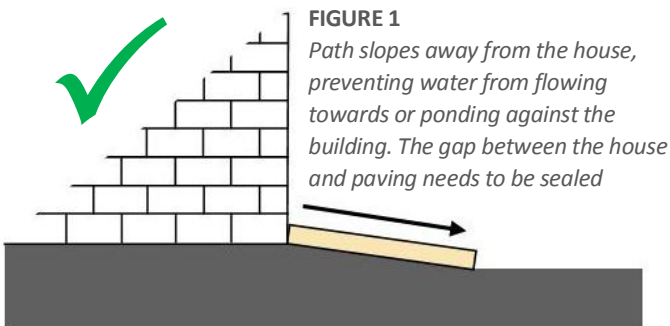

FIGURE 1
- Prevent water flowing towards your home's foundations by sloping the soil, paths and garden beds away from the building (Figure 1). As a rule, the more reactive the soil, the steeper the slope needs to be.